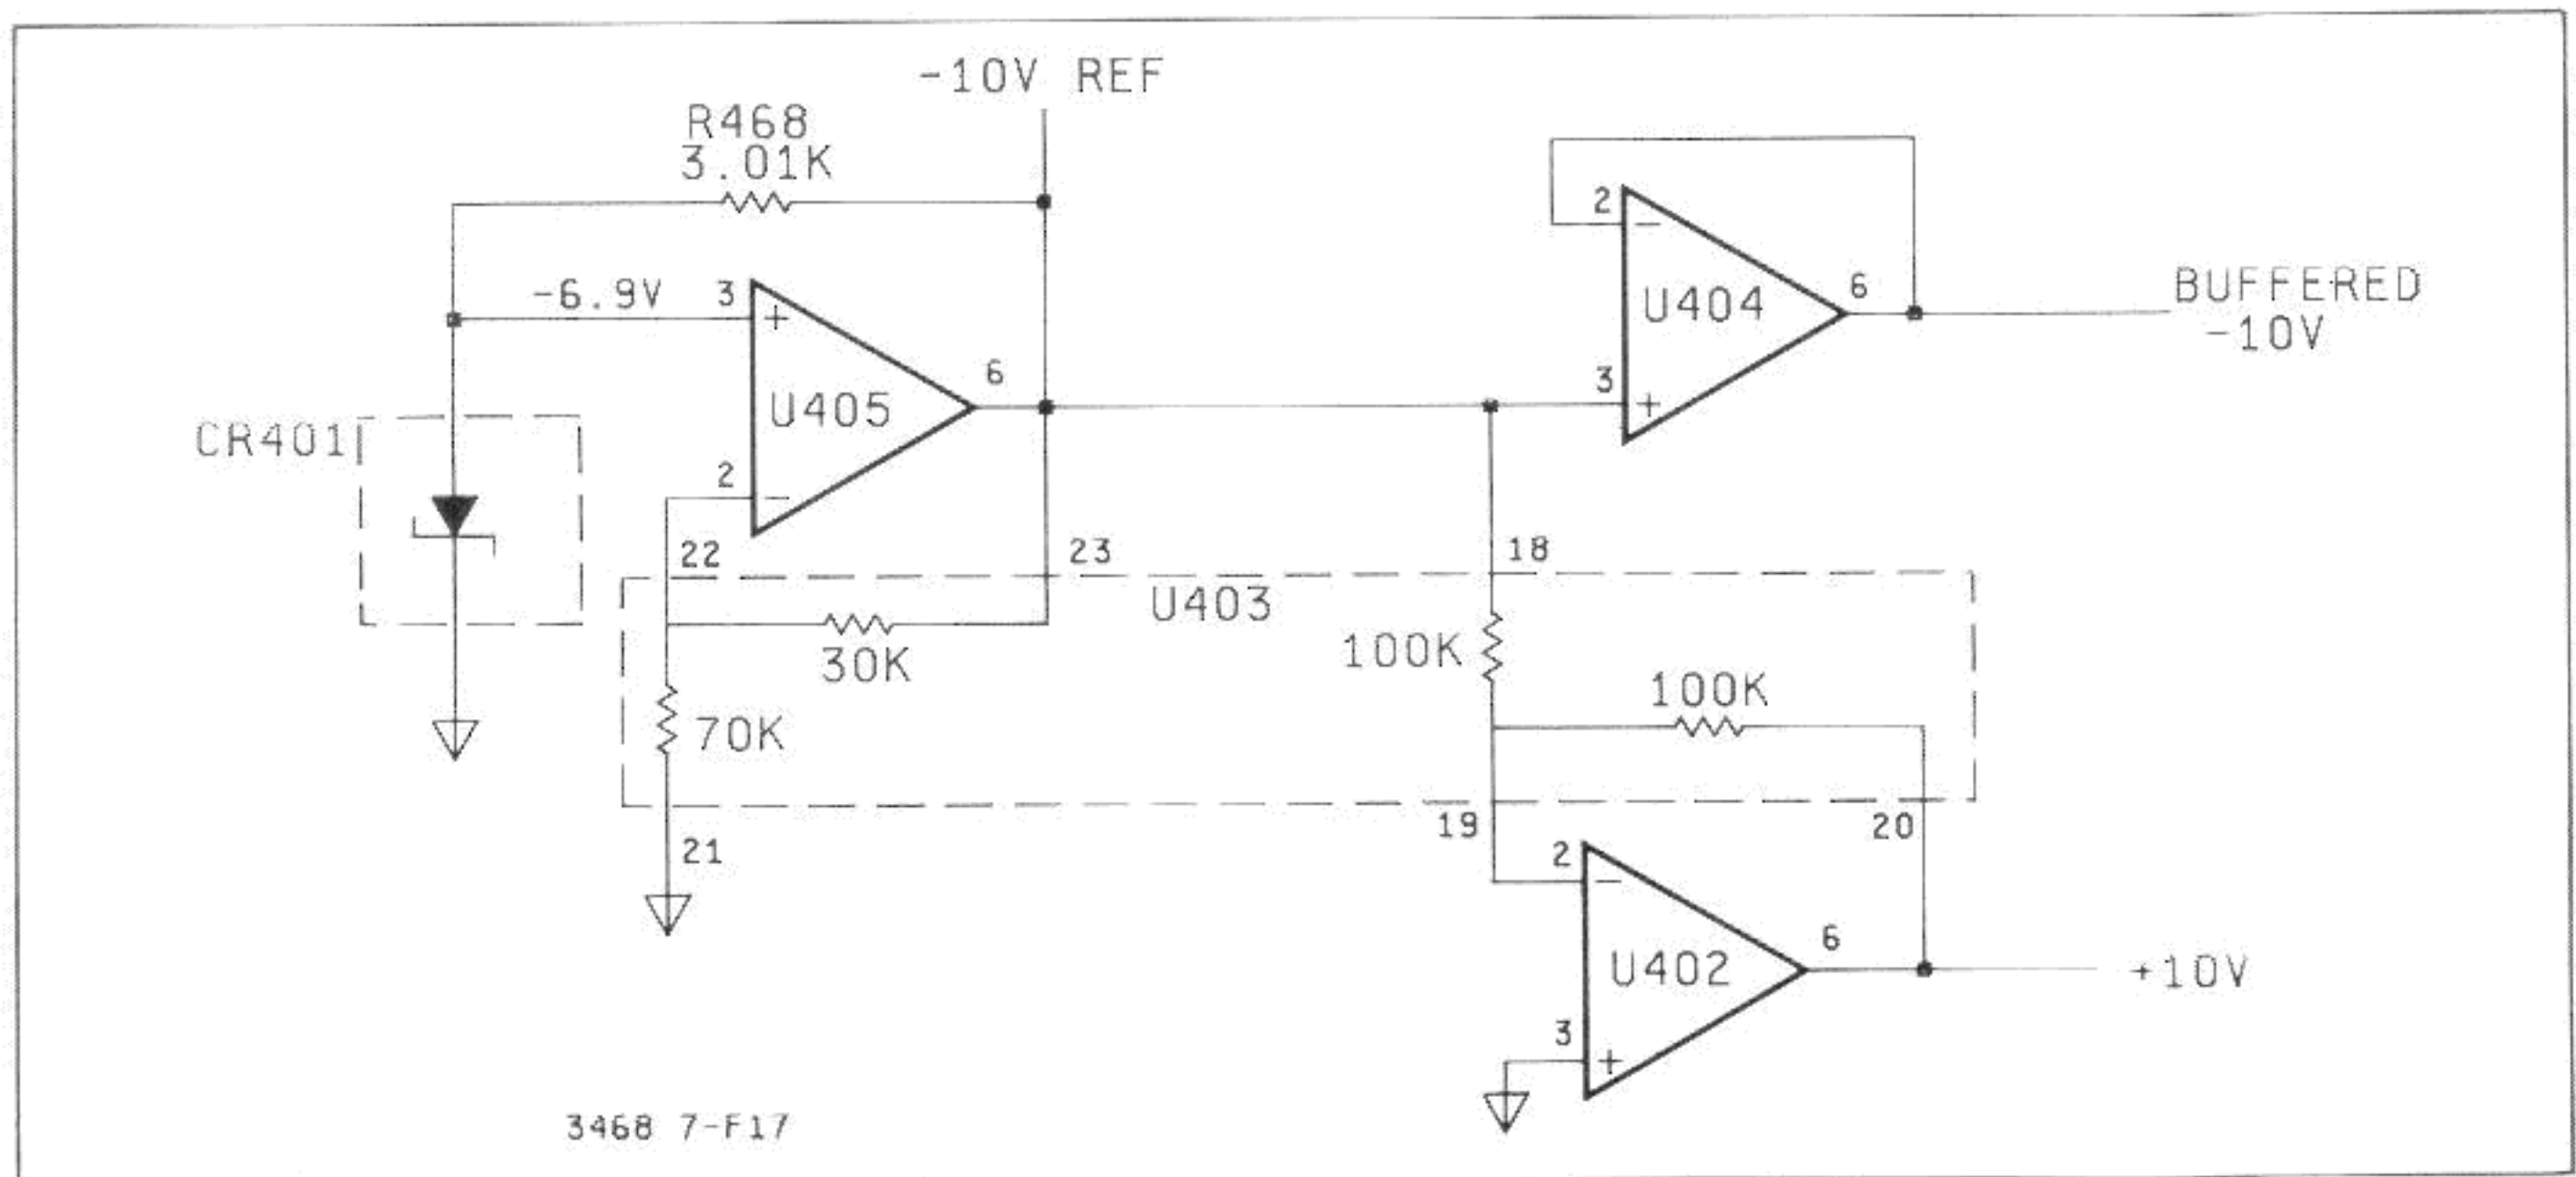

Figure 7-F-17. 3468A Simplified Reference Circuitry
d. Voltage Reference. The Voltage Reference provides three stable reference voltages: -10V, +10V, and a buffered -10V. The circuitry, shown in Figure 7-F-17, is explained as follows: